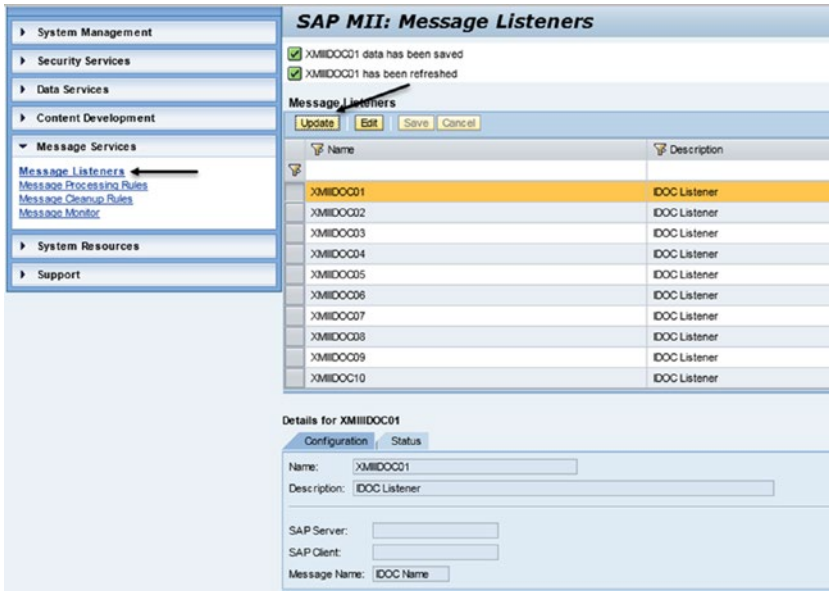

Figure 6-68. Message listeners
6. Navigate to the SAP MII menu page. Go to Message Service ► Message Listener. Select the desired listener and click on the Update button, as shown in Figure 6-68.